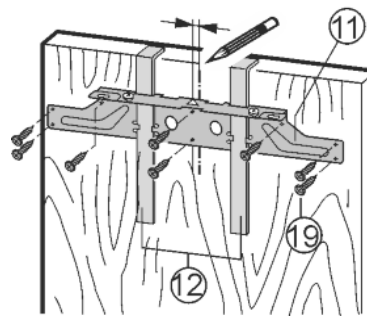

Fig. 22
- ▶ Align the crosspiece Fig. 22 (11) to the middle of the door.
- ▶ Left strip: Move the crosspiece Fig. 22 (11) 1/4 (6 mm) to the left.
- ▶ Right strip: Move the crosspiece Fig. 22 (11) 1/4 (6 mm) to the right.